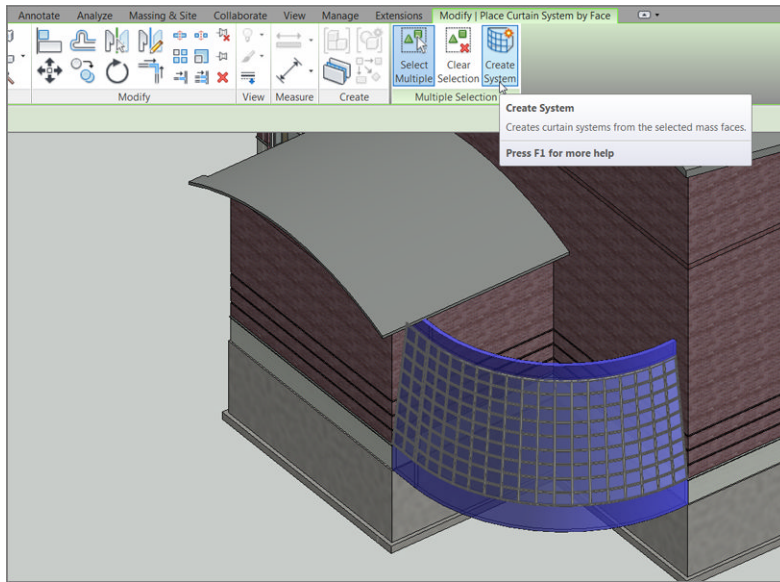

FIGURE 16.50: The curtain wall in all its glory
12. Click the Create System button, and you have it! (See Figure 16.50.)